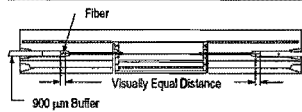
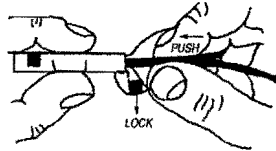

Figure 2
Figure 3
- Align each fiber with the entry port nearest the center of each end face. Insert the fiber slowly, making sure it travels smoothly through the channel into the center element. A 250- $\mu$ m fiber's coating will stop at the edge of the aluminum element, whereas a 900- $\mu$ m fiber's buffer will stop at the end of the wide part of the channel. Slide the fibers left or right and visually check that both gaps between the buffer and the aluminum element are equal. See Figure 2.
5. While applying gentle, inward pressure with the thumb and forefinger, gently rotate the key handle, turning it 90° as shown in Figure 3 (do NOT snap it closed). This locks the first fiber in place. Inspect the fiber to make sure it remained in the channel during locking.
- Added new Figure 2, renumbered Figure 3